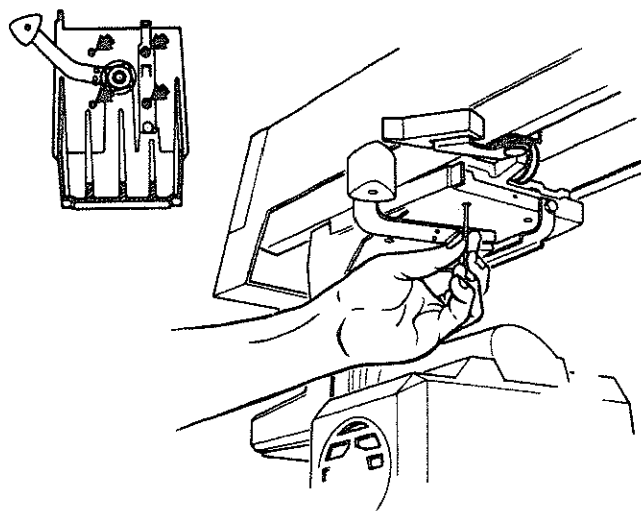

Fig. 113
7. Loosen the four screws under the *yoke* using a 3/16 inch hex-L wrench and pliers if necessary. (Figure 113)